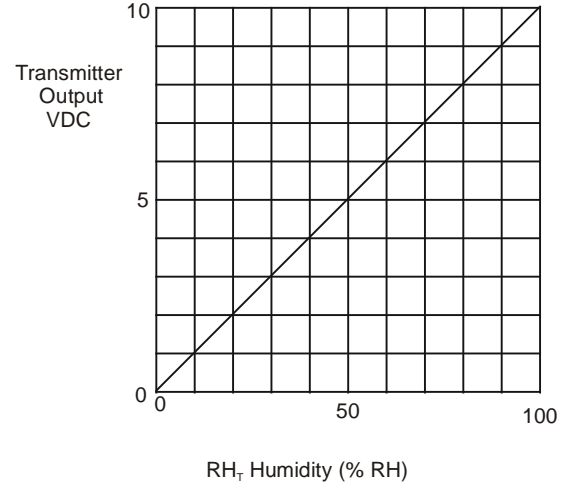

Figure 9: Transmitter Voltage vs. Humidity
* See Figure 9 for RH_T vs. Humidity illustration.
- c. Connect a DC voltmeter between the transmitter OUT wire and the control COM terminal. Using Figure 9, convert the voltage to % RH. This is the humidity reading at the transmitter (RH_T).
Note: A transmitter output of 0-10 VDC should correspond to a humidity of 0-100% RH (see Figure 9).